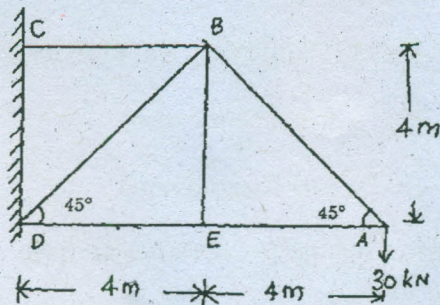

Fig. Q. 11(a)
11. (a) Determine the vertical displacement of joint A of the truss given in Fig. Q. 11(a). The member BD is subjected to an increase in temperature of  $80^{\circ}\text{C}$ . Take the coefficient of thermal expansion as  $0.00012/^{\circ}\text{C}$  and  $E = 2 \times 10^5 \text{ N/mm}^2$ . The cross sectional area of each member is  $1700 \text{ mm}^2$ .